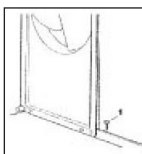

Fig 20.
2) Match the icemaker to its storage bin, fixing them with the two screws supplied with the machine (Fig.20).